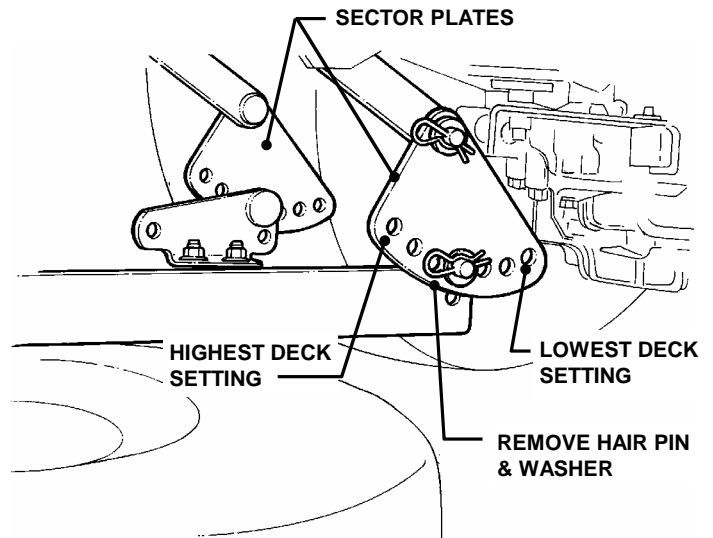

FIGURE 4.4
1. Remove hair pins and washers securing sector plates to rear lift arms. See Figure 4.4.